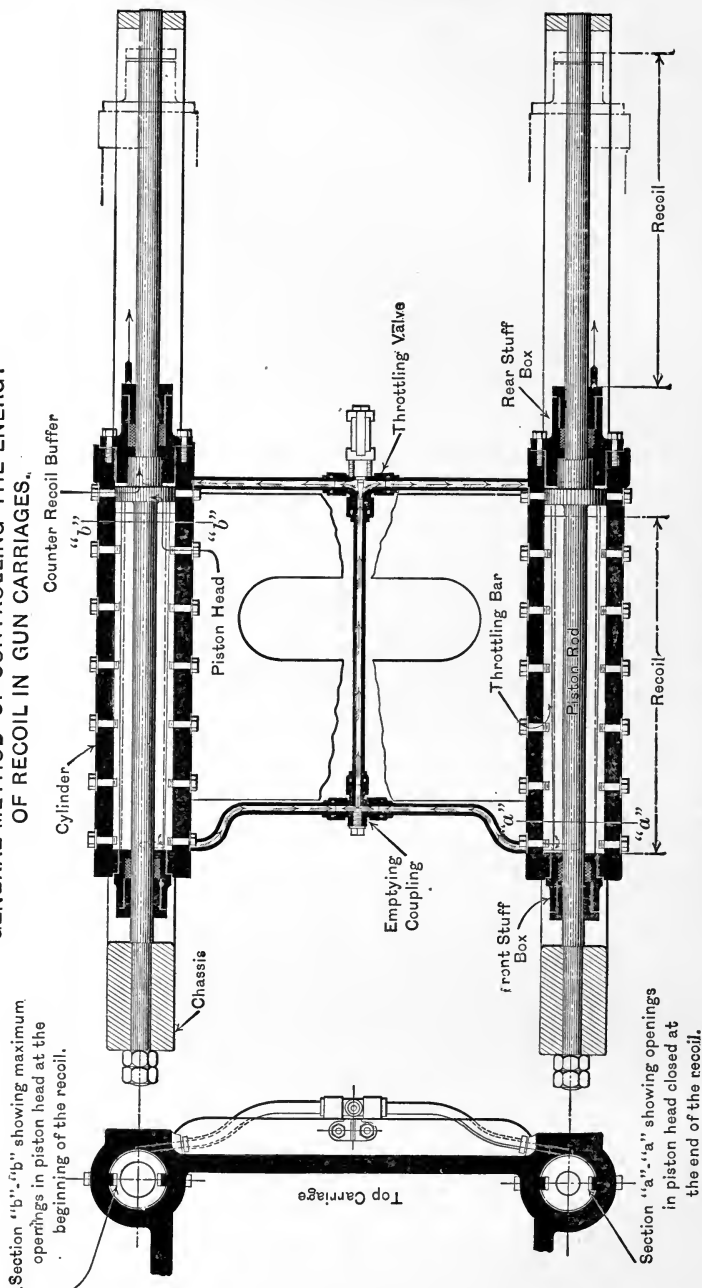

FIG. 31.
A. To regulate the flow of oil from the front to the rear of the recoil-cylinders. (See Fig. 31.)
The piston head is slotted to receive the bars as shown in Fig. 31, and the bars are thicker at one end than at the other, this varies the amount of oil that can pass through the piston head slots and therefore the pressure keeps uniform.
A. The two equalizing-pipes connecting the front and rear of opposite recoil-cylinders have a pipe connecting them; if this pipe is open completely, oil can move freely from the front to the rear of the cylinders. If it be closed partly by a valve called the throttling-valve, much less oil will pass this way. Thus, by regulating the adjustment of this valve, the recoil of the gun is regulated. It is seen that the *throttling-bars* work *with* the throttling-valve. (See Fig. 31.)